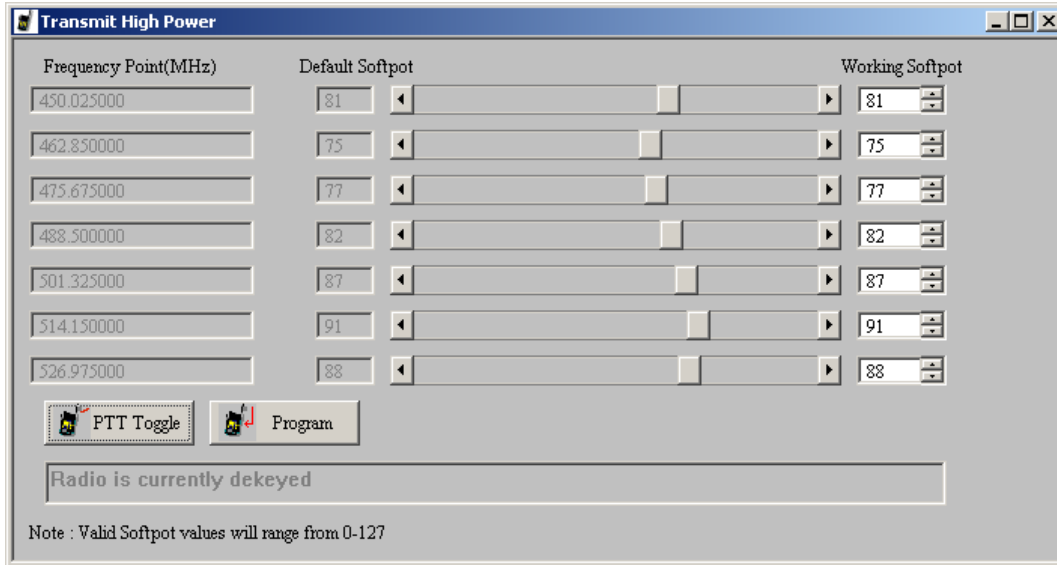

Figure 4-5. Transmit Power Window (High Power)
1. Under the **Tx Align** menu, select **Transmit Power**, then select **High** (Figure 4-5).